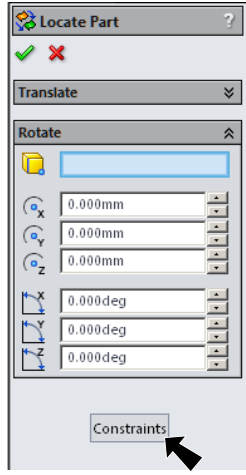

Fig. 13
Step 4. In the Locate Part Property Manager, Fig. 13 if necessary, click Constraints.